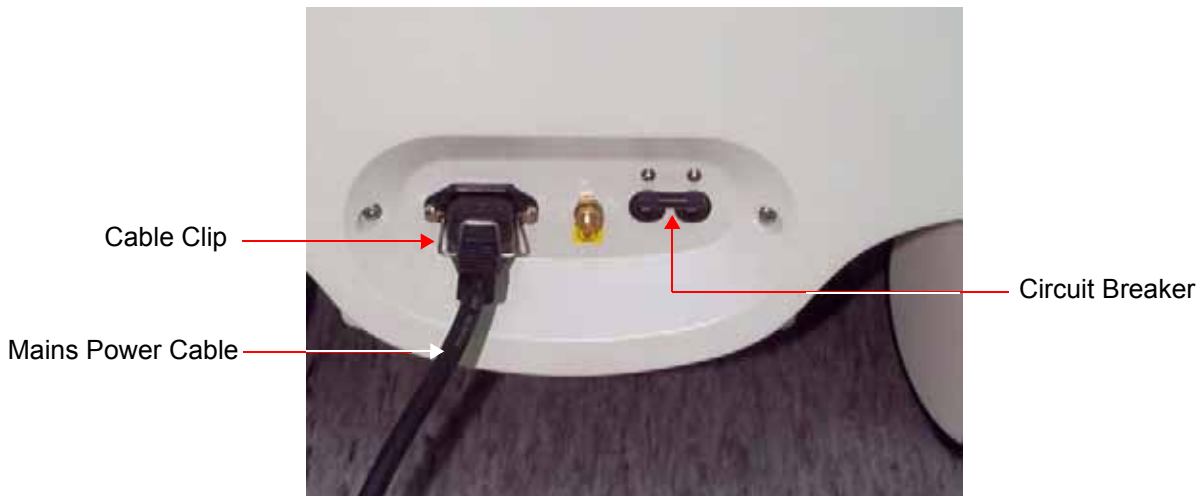

Figure 3-19 Circuit Breaker and Power Cable on Back of Scanner
- 3) Plug the power cord connector into the AC input socket, and secure it in place using the attached clip - see Figure 3-19
- 3) Unplug the mains power cable connector from the AC input socket (refer to Figure 3-19 on page 3-32).